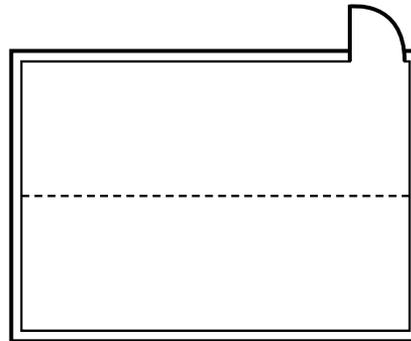

Fig. 1 - Center line
- Snap a chalk line down the center of the floor parallel with the long dimension of the room (Fig. 1).